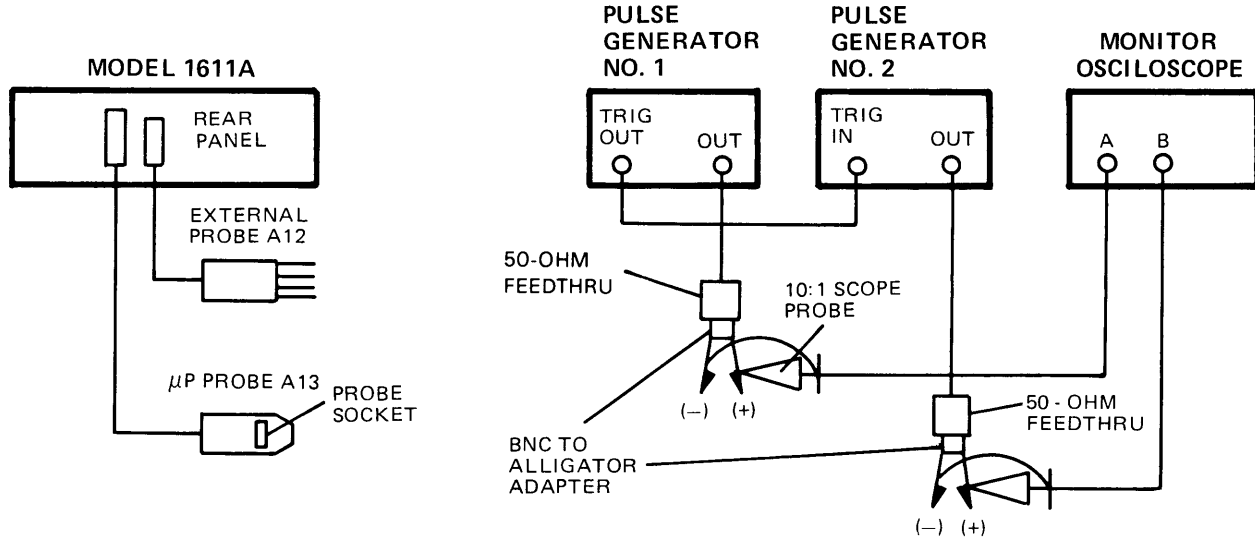

Figure 4-8. External Probe Input Test Setup
- a. Connect test equipment as shown in figure 4-8.